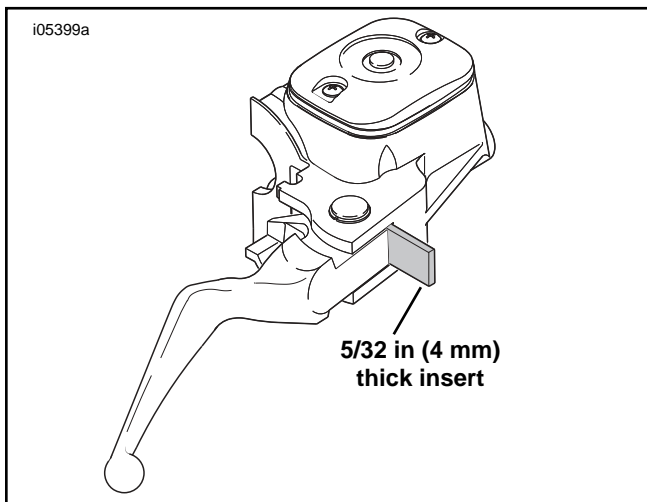

Figure 3. Position Insert Before Installing Master Cylinder
1. See Figure 3. Squeeze the brake lever on the new brake lever/ master cylinder assembly (stamped "14") from the kit, and place the insert between the brake lever and lever bracket.